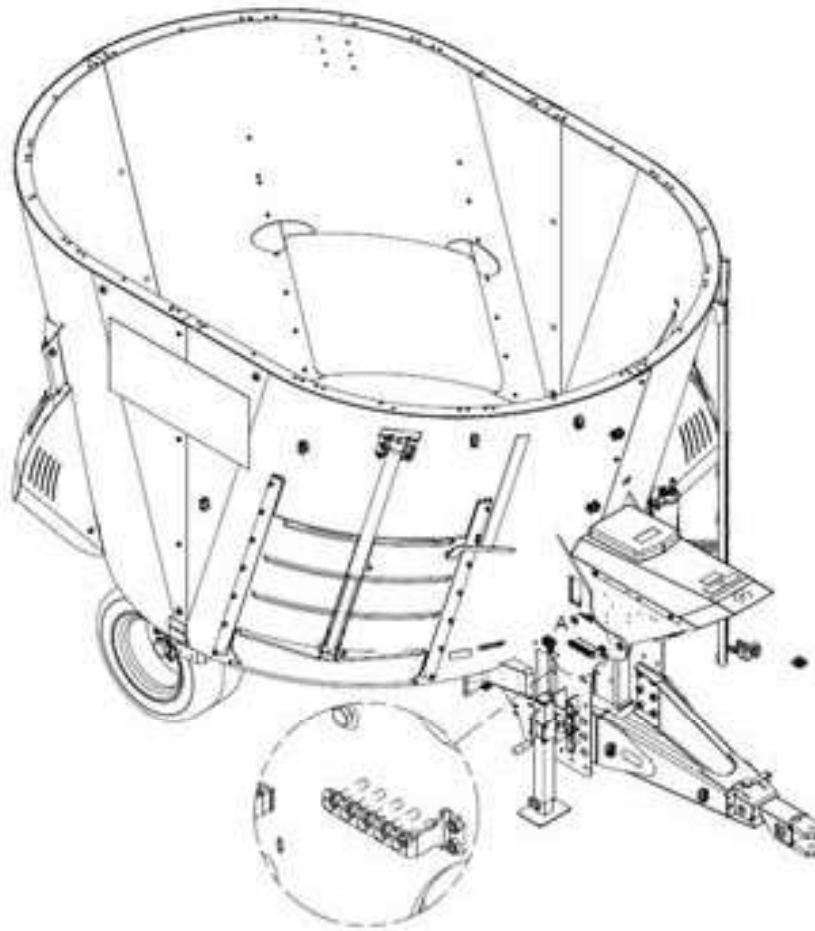

Figure 36 — Location of the Shear Bolts on the A280 and A380 SMARTMIX
3. Insert a new bolt (available on the spare bolt support) (Figure 36) (see Table 17 — Power Take-Off (PTO) Shear Bolts in "Appendix A — SMARTMIX maintenance summary tables" on page 126 for the type of shear bolt to use for your mixer model).